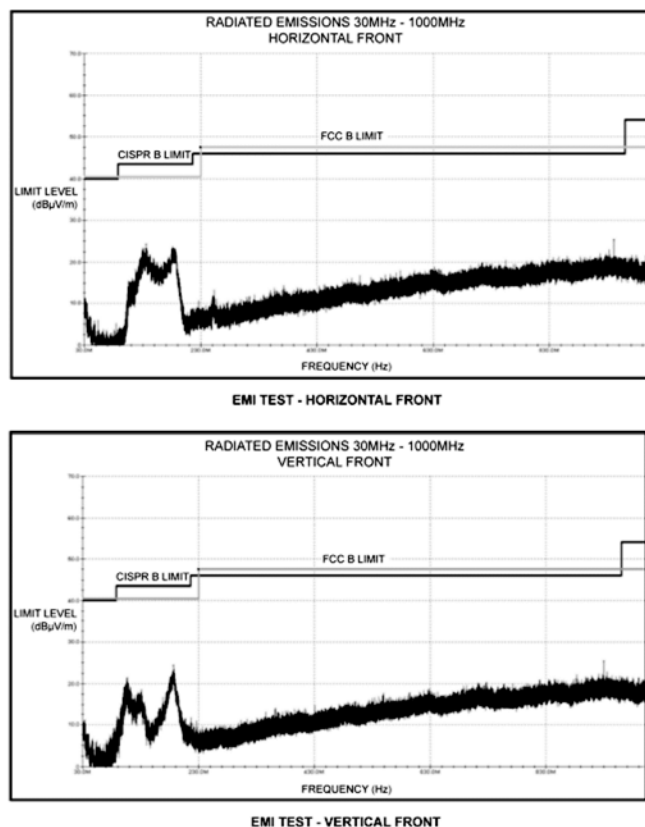

Figure 14. MIC38150 EMI Profiles
- Ultra-low EMI (emissions are contained within the package and filtered by integrated LDO). See Figure 14: